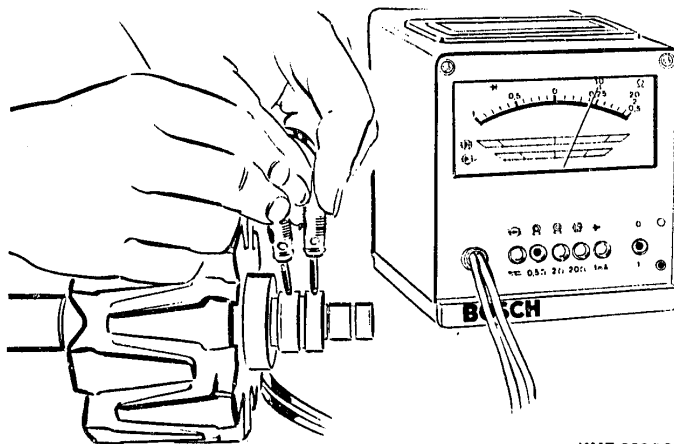

Figure 21 Rotor Resistance Testing
1. Using electric tester ETE 014.00 or Multimeter MMD 302, measure the resistance between the two collector rings of the rotor. The resistance measured should be between 7.5 and 8.3 Ω . (Figure 21)